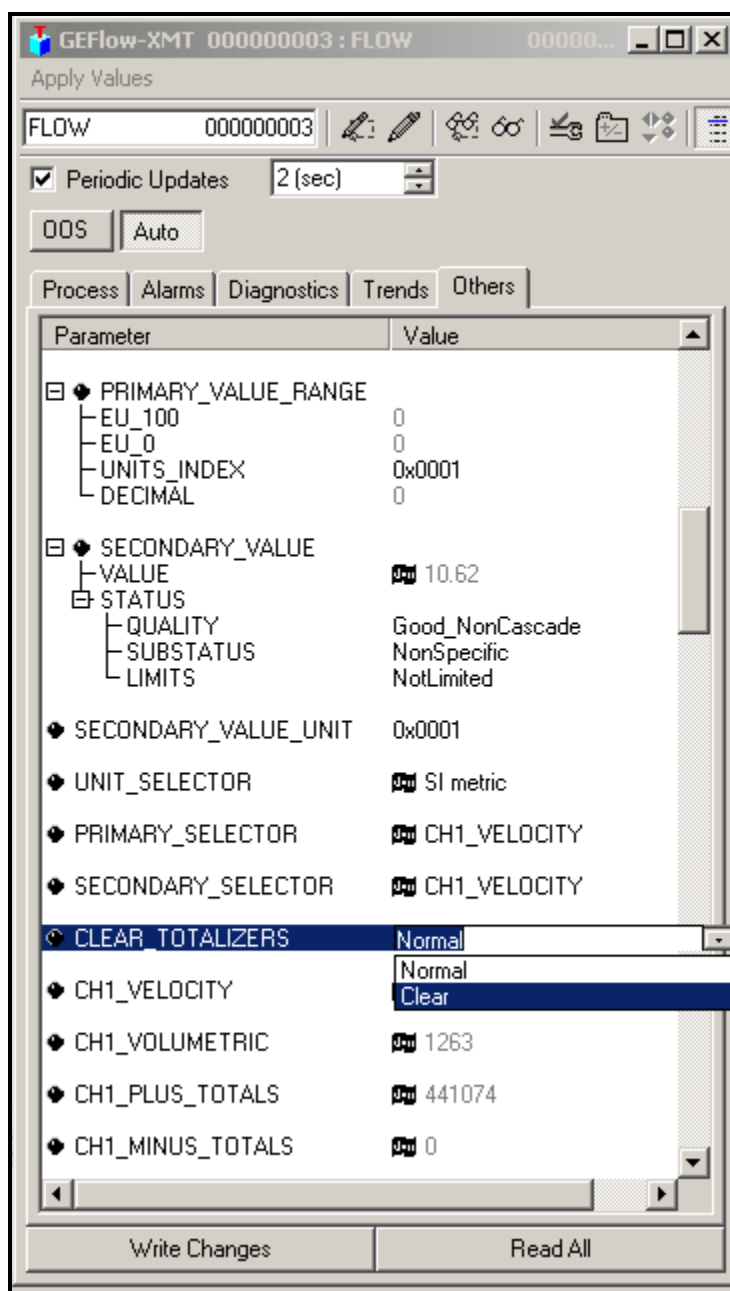

Figure D-4: Clear Totalizers Drop Down List
3. Select **Clear** from the drop down list box (see Figure D-4 below).